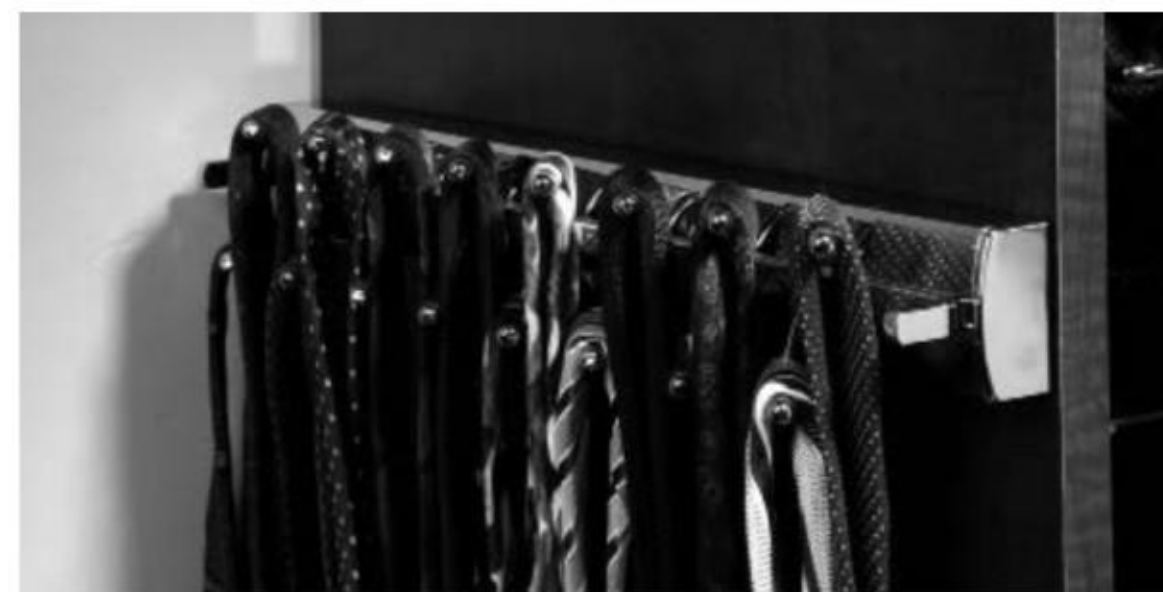

FIG. 1
Unscrew the (2) screws attaching your belt/tie to the swivel slide with a # 2 Phillip head screwdriver (See Figure 1).